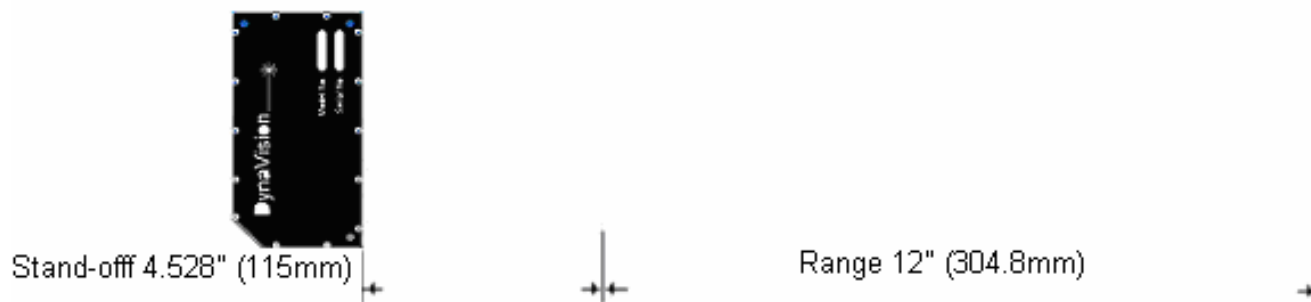

Figure 2 (Model 4-12)
3. Position a suitable target (e.g. a cardboard box or wood block) within the measurement Range of the DLS2000A (see Figures 2&3).
Calibration of the DLS2000A is relative to the reference face of the sensor. The minimum distance the target can be from the reference face of the sensor is the standoff distance (see Figures 2&3).